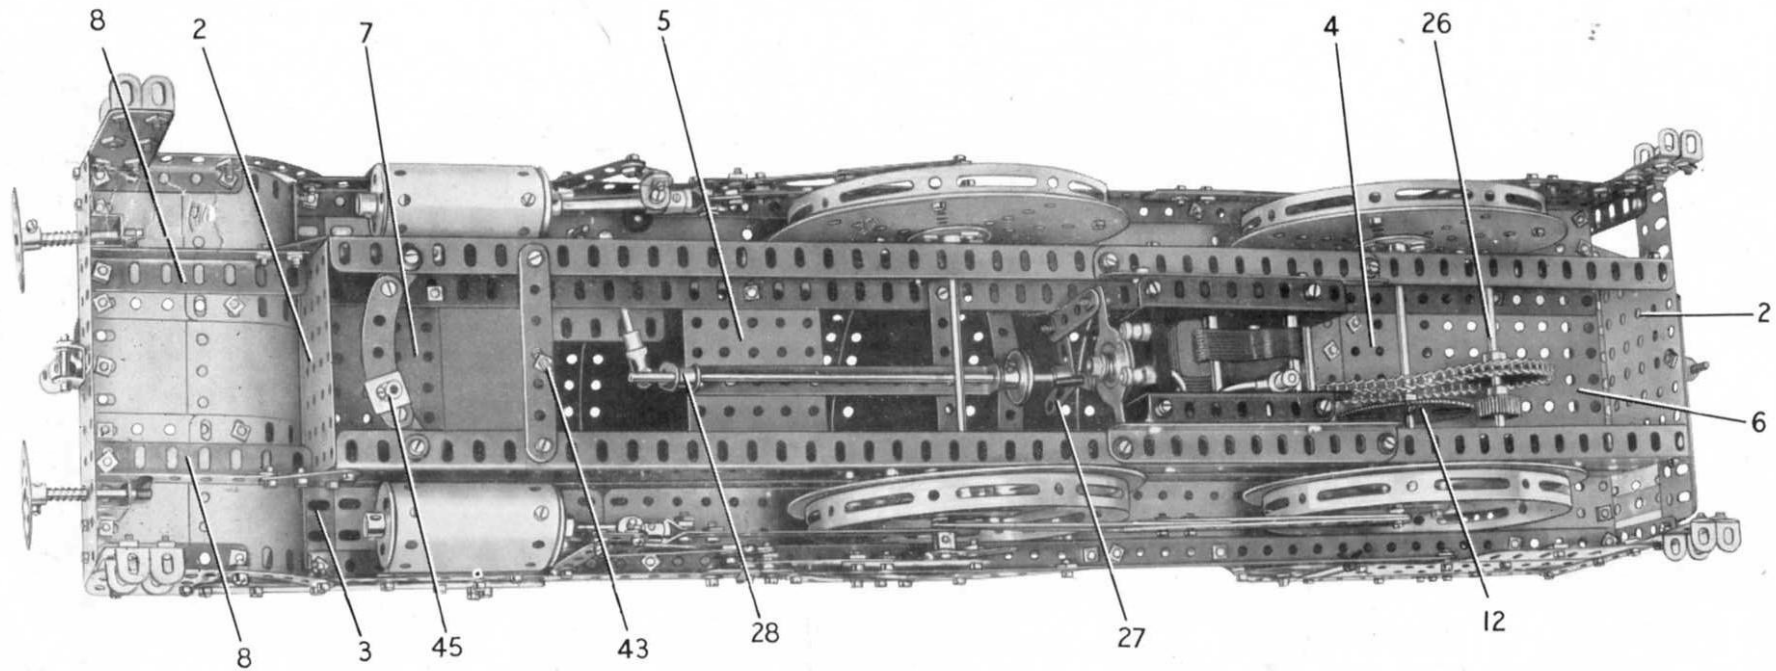
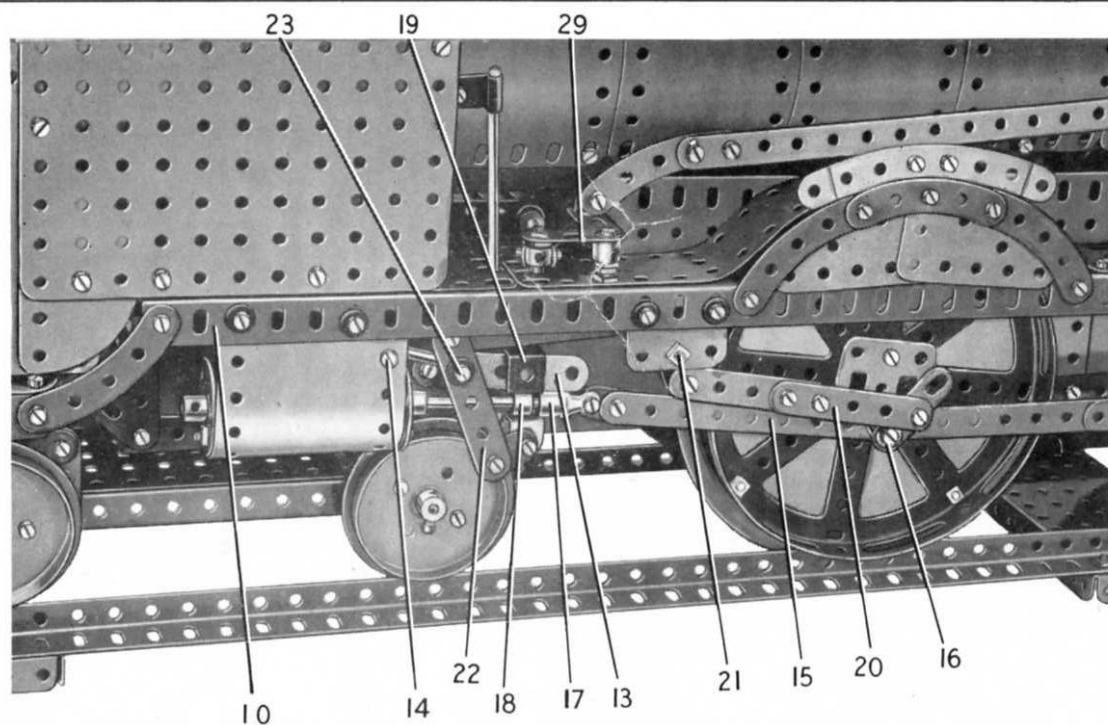
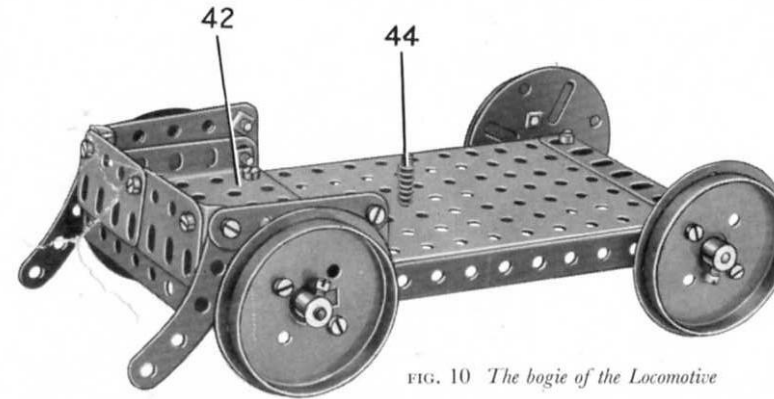

FIG. 2 Underneath view of the Locomotive showing details of the main frame and the driving arrangement
FIG. 4 A close-up picture of the valve motion and cylinder assembly
FIG. 10 The bogie of the Locomotive
Building the Model: The Main Frame and Running Plates (Figs. 2, 3 and 4)
The side-members are joined together at each end by $3\frac{1}{2}$ " \times $2\frac{1}{2}$ " Flanged Plates (2) (Fig. 2), the front one of which carries a built-up girder (3) made
The running plate on each side is made by bolting a $24\frac{1}{2}$ " Angle Girder (10) (Fig. 4) to the girder (3) and to $2\frac{1}{2}$ " Flat Girders fixed to the Flat Plate (6). Two $2\frac{1}{2}$ " \times $1\frac{1}{2}$ " Flexible Plates and three $5\frac{1}{2}$ " \times $1\frac{1}{2}$ " Flexible Plates are attached as shown to the Girder (10), and are curved to form the wheel splashers. The sides of the splashers over the leading driving wheels are each made from two $2\frac{1}{2}$ " \times $1\frac{1}{2}$ " Triangular Flexible Plates and three $2\frac{1}{2}$ " Curved Strips. The nameplate is represented by a 4" Stepped Curved Strip bolted to a 1" Triangular
from a $5\frac{1}{2}$ " and a 2" Angle Girder overlapped two holes. Two further $3\frac{1}{2}$ " \times $2\frac{1}{2}$ " Flanged Plates (4) and (5) are fixed across the main frame (Fig. 2), and a $5\frac{1}{2}$ " \times $2\frac{1}{2}$ " Flat Plate (6) is bolted across the rear end. A $5\frac{1}{2}$ " \times $3\frac{1}{2}$ " Flat Plate fixed to the Flanged Plate (4) and the Flat Plate (6), forms the footplate. A $3\frac{1}{2}$ " \times $2\frac{1}{2}$ " Flanged Plate (7) (Fig. 3) is attached to the front end of the main frame by Angle Brackets and a $3\frac{1}{2}$ " \times $\frac{1}{2}$ " Double Angle Strip.
At the front the main frame is extended forward by two $3\frac{1}{2}$ " Angle Girders (8) (Fig. 2), which are fixed to $1\frac{1}{2}$ " Corner Brackets. The front ends of the Girders (8) are connected by a built-up girder (9) (Fig. 3) made from a $5\frac{1}{2}$ " Angle
The dropped section of the frame at the front (Fig. 3) is plated by three $1\frac{1}{16}$ " radius Curved Plates and three $2\frac{1}{2}$ " \times $2\frac{1}{2}$ " Flexible Plates bolted between the girders (3) (Fig. 2) and (9) (Fig. 3). The outer $2\frac{1}{2}$ " \times $2\frac{1}{2}$ " Flexible Plates are edged by $2\frac{1}{2}$ " Angle Girders, and these are connected to the Girders (10) (Fig. 4) by $2\frac{1}{2}$ " Curved Strips. The steps are Angle Brackets fixed to $2\frac{1}{2}$ " Flat Girders, which are supported by the $2\frac{1}{2}$ " Angle Girders.
Driving Wheels and Motion (Figs. 2, 4 and 6)
Each of the main driving wheels consists of a Hub Disc bolted to a 6" Circular Plate, at the centre of which a Bush Wheel is bolted. The wheels are fixed in pairs on 5" Rods supported in the main frame (see Fig. 2), and at each end of each Rod a Double Arm Crank is held by its grub screw. A Flat Trunnion is fixed to each Double Arm Crank by a $\frac{1}{2}$ " Bolt, which passes also through a hole in the wheel (see Fig. 4). The Flat Trunnions form the crank assemblies. A $2\frac{1}{2}$ " Gear (12) (Fig. 2), is fixed on the rear 5" Rod.
The Strip (15) is extended by a Fishplate that is *lock-nutted* to an End Bearing (17) (Fig. 4) on a $3\frac{1}{2}$ " Rod. This Rod slides freely in the Flanged Wheel forming the rear cover of the cylinder, and on it a Collar (18) is fixed. A $\frac{3}{4}$ " Bolt is then passed through the lugs of a Double Bracket (19) and is screwed into a hole in the Collar, so that the Double Bracket is able to slide freely on the slide bar (13).
Arrangement of the Motor and Reduction Gearing (Figs. 2, 4, 5 and 6)
The E20R Electric Motor used to drive the model is attached by Angle Brackets to two $5\frac{1}{2}$ " Angle Girders bolted underneath the main frame (Fig. 5). A $\frac{1}{2}$ " Pinion on the Motor shaft drives a 57-tooth Gear on a $2\frac{1}{2}$ " Rod (24), which is passed through the Motor side-plates. A $\frac{1}{2}$ " Pinion on Rod (24) is meshed with another 57-tooth Gear on a 2" Rod (25). This Rod also is supported in the side-plates, above Rod (24), and it carries a $\frac{3}{4}$ " Sprocket connected by Chain to a 2" Sprocket on a 4" Rod (26). A $\frac{3}{4}$ " Pinion on Rod (26) engages the $2\frac{1}{2}$ " Gear (12) (Fig. 2) on the rear driving axle.
A 2" Strip is lock-nutted to one arm of the Motor switch and to a Bell Crank (27) (Fig. 2). The Bell Crank is fixed on an 8" Rod supported in a $5\frac{1}{2}$ " \times $\frac{1}{2}$ " Double Angle Strip bolted to the Flanged Plate (5) and to a $3\frac{1}{2}$ " Strip placed across the main frame. The Rod carries a Crank (28), and a Swivel Bearing is pivoted on a $\frac{1}{2}$ " Bolt fixed in this Crank by two nuts. The Swivel Bearing is mounted on a 2" Rod fitted at its other end with a second Swivel Bearing, and this is pivotally attached to a Bell Crank (29) (Fig. 6) by a $\frac{1}{2}$ " Bolt that is fixed by two nuts. The Bell Crank is freely mounted on a $\frac{3}{4}$ " Bolt, and
is held against the head of the Bolt by two nuts screwed against each other (see Fig. 4). The Bolt is then fixed in the running plate by two nuts.
At its front end the boiler is bolted to the Flanged Plate (7) (Fig. 3) and at the rear is supported by a Double Bent Strip fixed to the Flanged Plate (4) (Fig. 2). The chimney consists of three 1" loose Pulleys and two Wheel Discs held in place by a $\frac{3}{4}"$ Bolt. A Rubber Ring is fitted to each Pulley.
A $12\frac{1}{2}$ " Flat Girder (33) (Fig. 1) on each side is fixed to the flanges of the Flanged Plates (5) and (4) (Fig. 2).
The footplate is extended by a $4\frac{1}{2}$ " \times $2\frac{1}{2}$ " Flat Plate (37), fitted at each end with a $2\frac{1}{2}$ " Strip and at the back with a $5\frac{1}{2}$ " Strip. The $5\frac{1}{2}$ " Strip is connected to the Plate (6) (Fig. 2) by two $\frac{1}{2}$ " Bolts, but is spaced from the Plate by a Cord Anchoring Spring on each Bolt.
Construction of the Bogie (Fig. 10)
The bogie is made by bolting a $5\frac{1}{2}$ " \times $3\frac{1}{2}$ " Flat Plate and a $3\frac{1}{2}$ " \times $2\frac{1}{2}$ " Flanged Plate (42) (Fig. 10) to a $7\frac{1}{2}$ " Angle Girder on each side. A $3\frac{1}{2}$ " Angle Girder is bolted to one end and a $3\frac{1}{2}$ " \times $\frac{1}{2}$ " Double Angle Strip is fixed to the other end. A $2\frac{1}{2}$ " \times $1\frac{1}{2}$ " Flexible Plate is attached to each flange of the Plate (42) and is edged by a $2\frac{1}{2}$ " Strip and fitted with a $2\frac{1}{2}$ " Curved Strip arranged as shown. At the front two 2" Flat Girders are bolted together and are attached to the Flexible Plate by Angle Brackets. The bogie wheels are Wheel Flanges and Face Plates bolted together, and they are fixed on 5" Rods. Each of the Rods is held in place by two Collars.
The bogie is *lock-nutted* on a $1\frac{1}{8}$ " Bolt (43) (Fig. 2), which passes through a $3\frac{1}{2}$ " Strip bolted across the main frame. A $\frac{3}{4}$ " Bolt (44) (Fig. 10) is passed through the bogie and on it is placed a Compression Spring. The Bolt is then fixed in a Slide Piece (45) (Fig. 2), which is carried on a $2\frac{1}{2}$ " Curved Strip attached to the main frame by Fishplates.